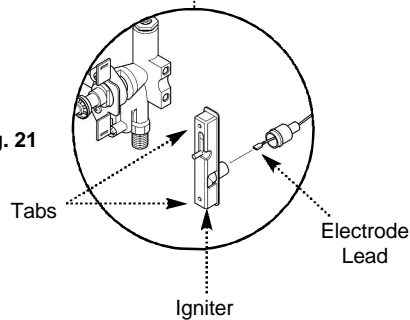

Fig. 22
2. Remove the three screws holding the burner retaining plate to the airbox and undo the thermocouple nut from the gas tap (Fig. 22 & 24).
4. Disengage the burner from the injector and pull the electrode lead off the spark electrode (Fig. 22).